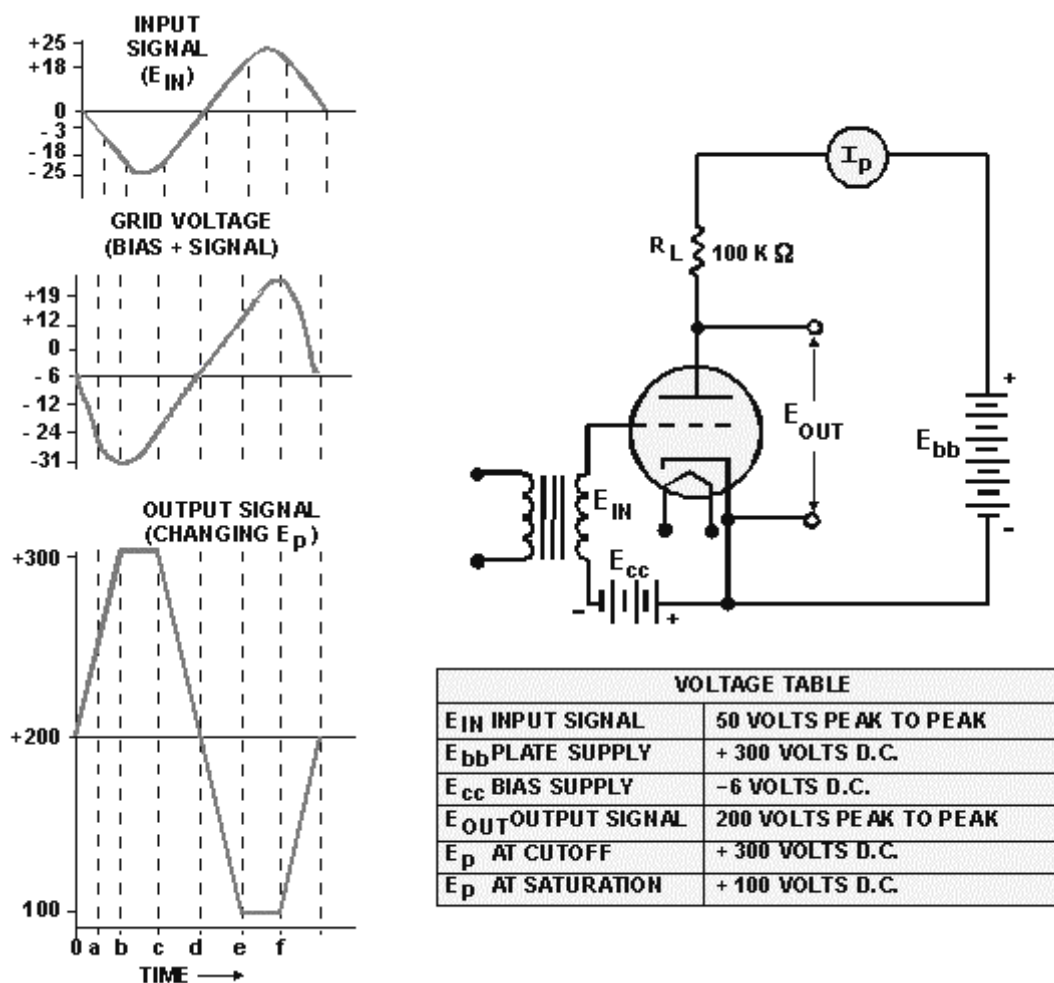

Figure 1-20.—Overdriven triode.
Look at time zero (0) in the waveforms of figure 1-20. The input signal (E_{in}) is at zero volts. Grid voltage equals the bias voltage (-6 volts), and one milliampere of current is flowing through the tube (quiescent state). Plate voltage (E_p) is 200 volts.
During the next cycle, the same process will be repeated, with C_c charging on the positive alternation and discharging a lesser amount during the negative alternation. Therefore, at the end of the second cycle, C_c will have an even larger negative charge than it did after the first cycle. You might think that the charge on C_c will continue to increase until the tube is forced into cutoff. This is not the case. As the negative charge on the right-hand plate of C_c forces the grid more negative, electrostatic attraction between the grid and cathode decreases. This, in effect, increases the resistance (rgk) between the cathode and the grid, until rgk becomes, in effect, the same size as R_g . At this point, charge and discharge of C_c will equal one another and the grid will remain at some negative, steady voltage. What has happened in this circuit is that C_c and R_g , through the use of unequal charge and discharge paths, have acted to change the ac input to a negative dc voltage. The extent of the bias on the grid will depend on three things: the amplitude of the input, the frequency of the input, and the size of R_g and C_c . This type of biasing has the advantage of being directly related to the amplitude of the input signal. If the amplitude increases, biasing increases in step with it. The main limiting factor is the amount of distortion that you may be willing to tolerate. Distortion occurs during the positive alternation when the grid draws current. Current drawn from the electron stream by the grid never reaches the plate; therefore the negative-going output is *not* a faithful reproduction of the input, while the positive-going output (during the negative input cycle) *will be* a faithful reproduction of the input. This is similar to the situation shown in the flattopped portion of the output signal in figure 1-20.